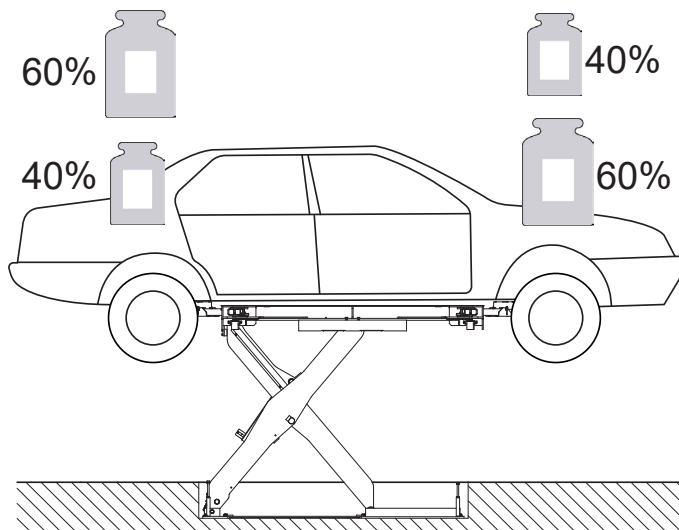

Abb. 1
- 60%:40% / 40%:60% (reversibel) (Abb. 1).